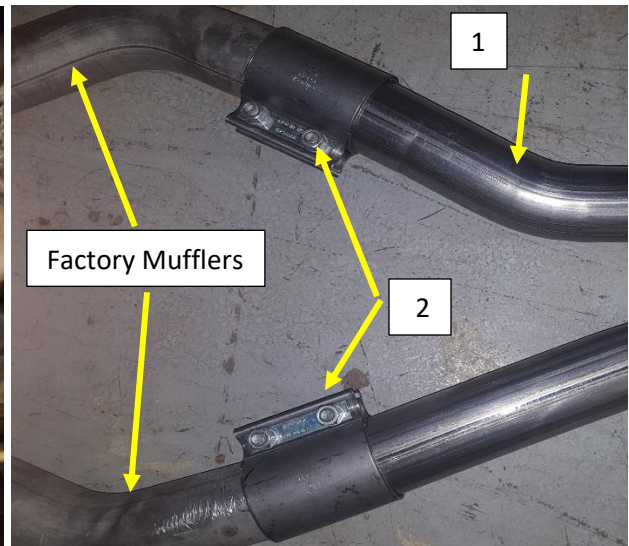

Figure.4
3. Install the supplied Couplers (2) on to the Y-Pipe outlets (1). **Fig.4**
4. Align the Factory muffler pipes and the Y-pipe inlets and slide the Supplied couplers (2) on to the muffler pipes so the coupler has a 50/50 split between the Y-Pipe and the muffler pipes. **Fig.4**